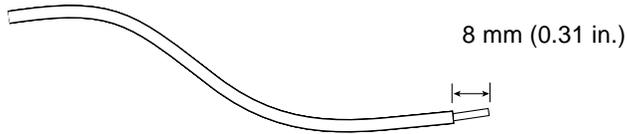

FIGURE 3-2 Stripping the Insulation From the Wire
- Strip 8 mm (0.31 inches) of insulation from each of the wires coming from the DC power source (see FIGURE 3-2).